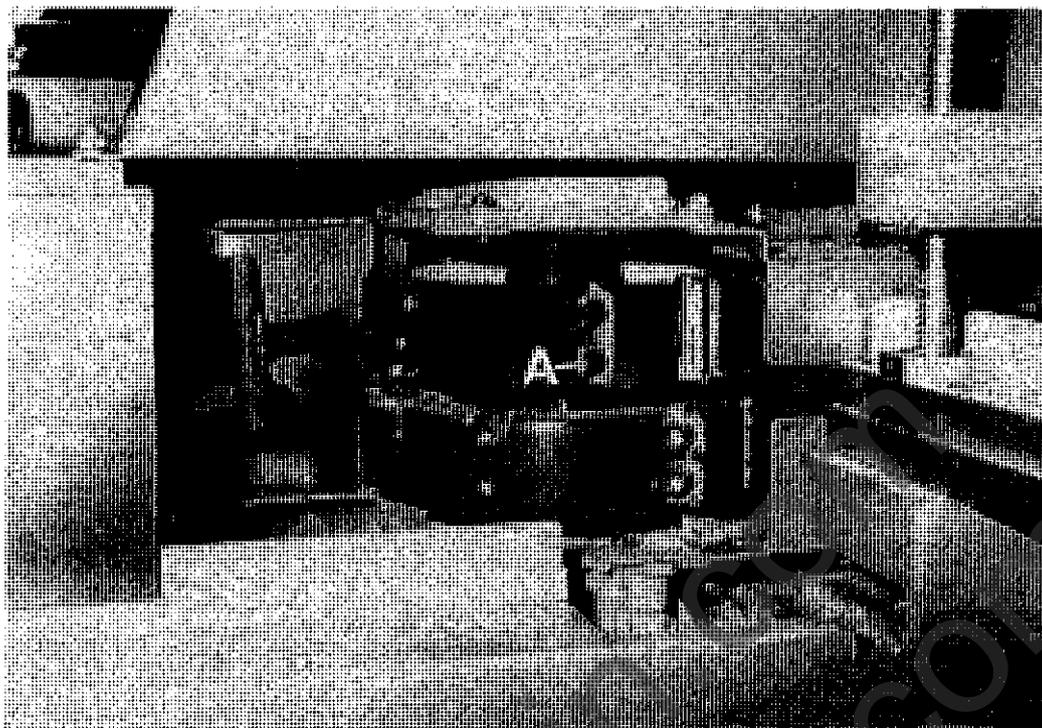

FIG.21
The scribing cutters are fitted to easily removed cartridges which are held in the main tenon blocks by screws 'A', FIG.21.
- a) Traverse head unit to cut-out in guard as shown in FIG.21
- d) Loosen cartridge locking screws 'A', FIG.21.